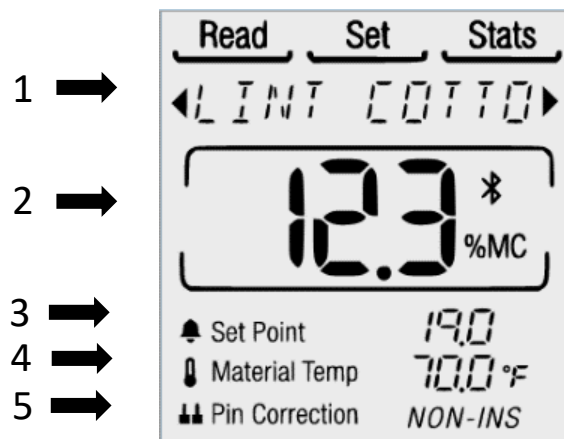

Figure 2: Read screen components
Info: The live reading area displays the moisture value (%MC) of the selected material, corrected for Material Temperature (4) (see Figure 2 above).